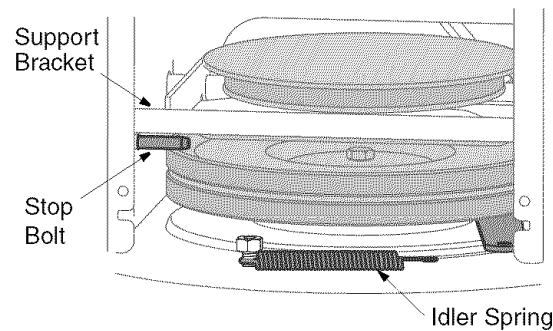

Figure 20
- Unhook the idler spring from the hex bolt on the auger housing. See Figure 20.
- Back out the stop bolt until the support bracket rests on the auger pulley. See Figure 20.